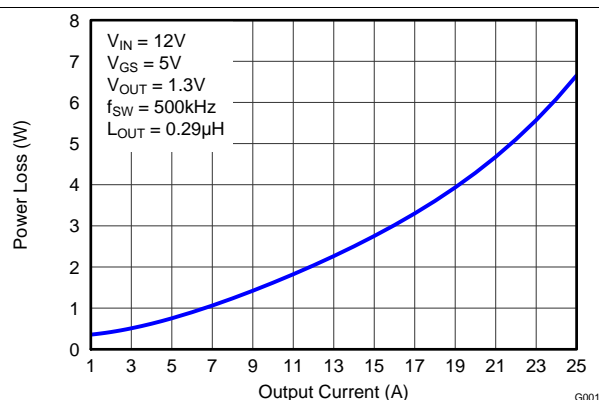
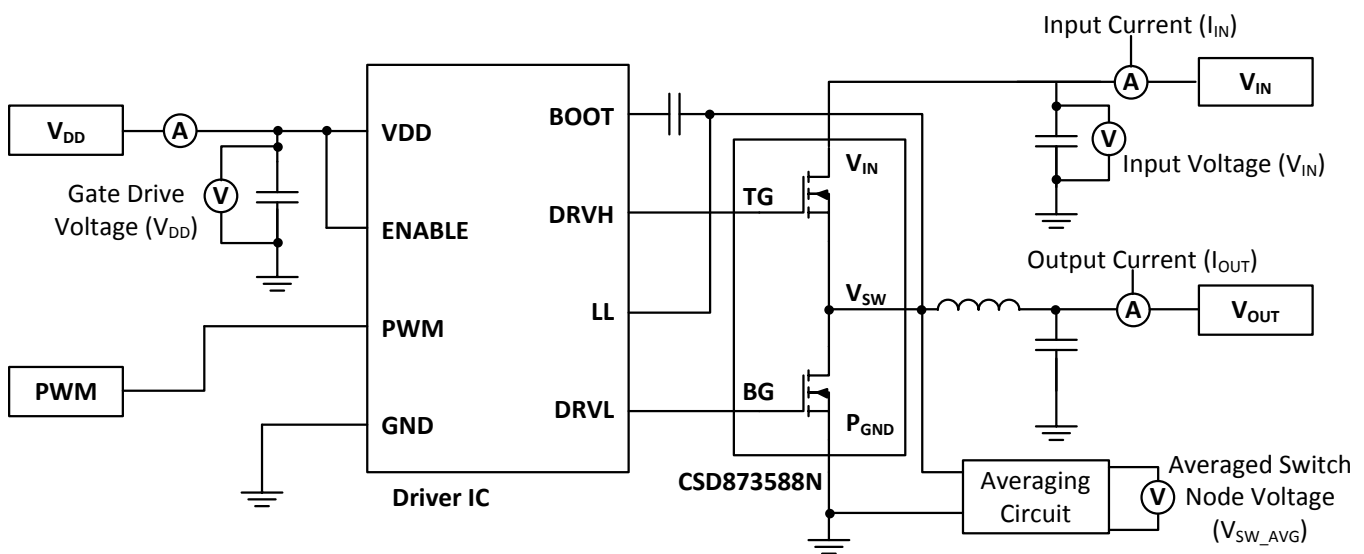

Figure 1. Power Loss vs Output Current
Figure 27. Typical Application
MOSFET-centric parameters such as $R_{DS(ON)}$ and Q_{gd} are needed to estimate the loss generated by the devices. To simplify the design process for engineers, TI has provided measured power loss performance curves. Figure 1 plots the power loss of the CSD87588N as a function of load current. This curve is measured by configuring and running the CSD87588N as it would be in the final application (see Figure 27). The measured power loss is the CSD87588N loss and consists of both input conversion loss and gate drive loss. Equation 1 is used to generate the power loss curve.
The power loss curve in Figure 1 is measured at the maximum recommended junction temperatures of 125°C under isothermal test conditions.
- Power Loss at 15 A = 2.75 W (Figure 1)